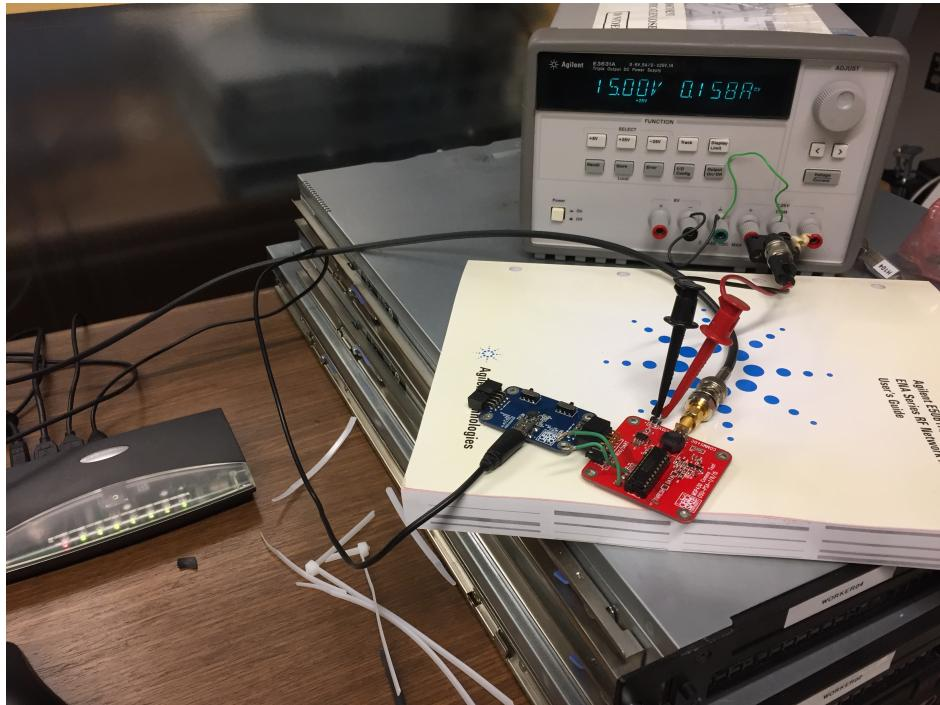

Figure 5: A photo of the complete power supply, USB-to-UART, and MSP430 comms-tester ready for testing.
2. Plug the USB-to-UART converter into the comms-tester. Wire the 15V input and GND from a DC power source to the comms-tester, but do not turn the supply on yet. A photo of all devices plugged in and ready for use is given in figure 5.
4. Turn the power supply on. With only the PC board as a load (including DC-DC converters) it should draw about 20 mA. (The photo in figure 5 shows larger current draw because it was powering an alternative set-up at the time.)